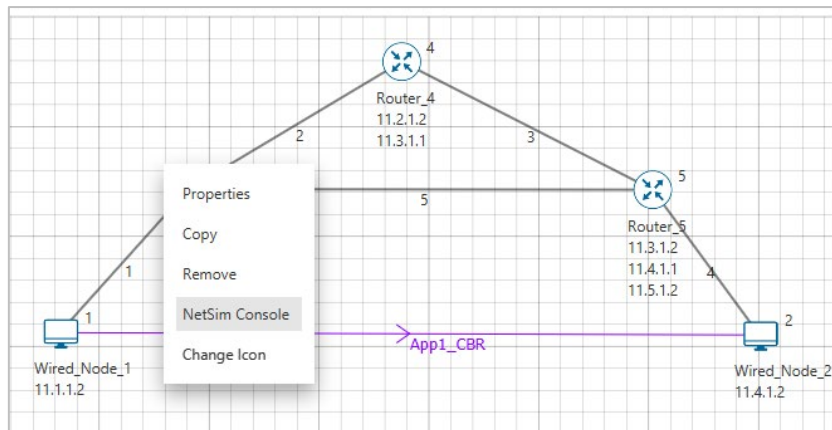

Figure 3-38: Select NetSim Console option
- After Simulation window opens, goto Network scenario and right click on Router_3 or any other node and select NetSim Console option as shown Figure 3-38.